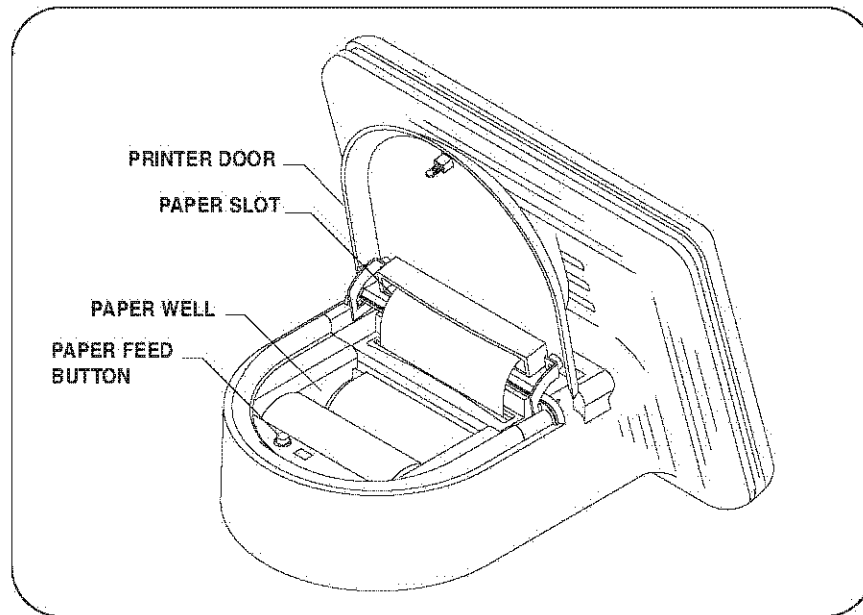

Figure 4-2: Loading Paper in Printer
5. Push the paper into the printer. The printer will feed the paper using its automatic feed. After the printer feeds the paper, advance approximately 3 inches of paper out the top of the printer, using the Paper Feed Button (*figure 4-2*).